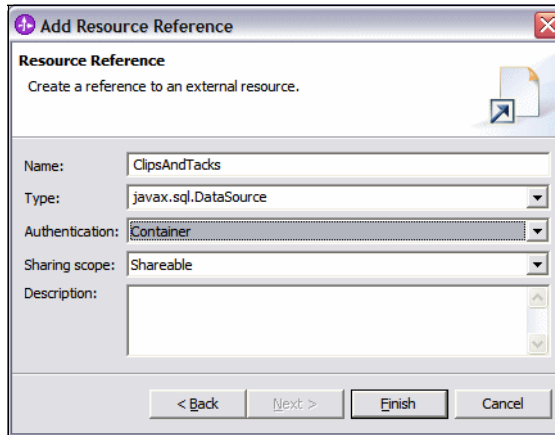

Figure 10-84 Data source resource definition
- ▶ Enter these values (Figure 10-84):